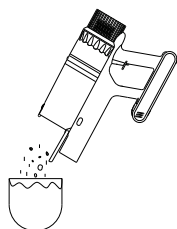

Figure 13
1. Press the dust container lid release button. Empty the dust inside the dust container into the dustbin (as shown in **Figure 13**).